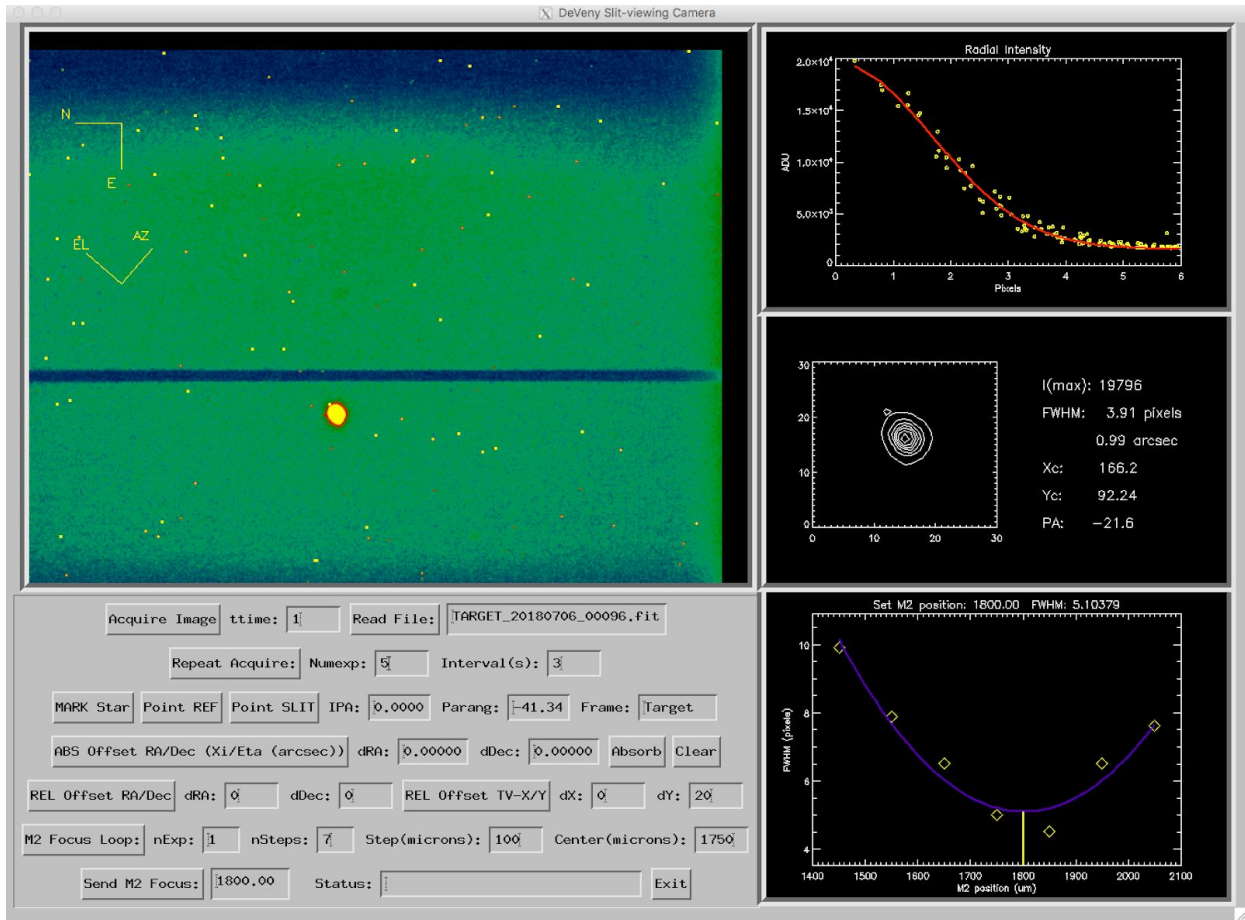

Figure 16. IDL *slitviewgw* control GUI.
- b. At the IDL> prompt, type `slitviewgw`. This launches the slit viewing camera top level control GUI (Figure 16).
- 4) **MARK Star**: Fits a 2-D Gaussian function to a selected star in the field of view; the center of the PSF is utilized for offsetting operations. Click the button, then select the target with the cursor and click. Note: the Status field will change to say Markstar! and the cursor will change. After the fit is calculated, a 1-D radial plot of the target intensity with the fitted curve is displayed in the upper right window, and a contour plot of the selected star and fit parameters are displayed in the middle-right window (Figure 16).